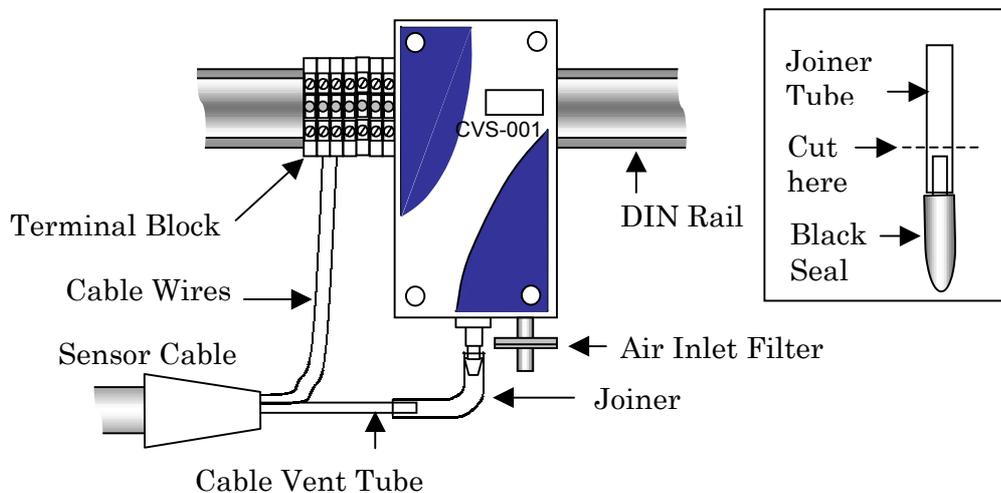

Figure 1. Single Installation, (Suggestion Only)
Remove the seal by cutting the end of the joiner tube with a sharp knife prior to connection. See inset, figure 1.
Figure 1 shows one arrangement possible for fitting CVS-001 to the sensor. A single CVS-001 is designed to handle sensor cable lengths up to **70 metres**. Multiple units may be connected together to increase the capacity. (CVS-002, CVS-003, CVS-004).
1. Remove joiner tube from cable vent tube. See Figure 1.